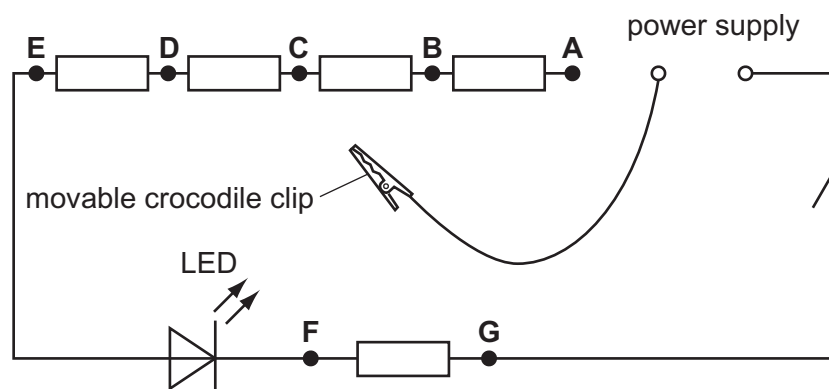

Fig. 4.1
3. Four of the 150Ω resistors must be connected in series using crocodile clips labelled A to E as shown in Figs. 4.1 and 4.2. There must be room left to attach the movable clip to the wires between each labelled clip and the adjacent resistors.
The fifth 150Ω resistor must be connected in series with the other four and the LED, as shown in Fig. 4.1, using crocodile clips labelled F and G.
5. These will be used to construct the circuit shown in Fig. 4.1.
The supervisor must ensure that the circuit is in the configuration shown in Fig. 4.1, that the LED still lights up when the switch is closed, and that the movable crocodile clip is not attached to any point in the circuit. If cells are used, they must be checked and replaced if necessary. The voltmeter and its connecting leads must be detached from the circuit and placed nearby.